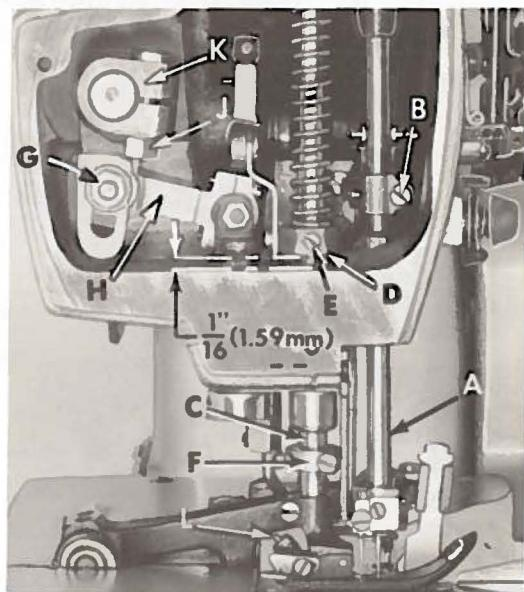

Fig. 4
Align the needle bar (A, Fig. 4) and set to height, using the proper test pins and test plate of the right gauge. See chart below.
If test plate and test pins are not available, insert a new set of needles (Type and Size as required) and align the needle bar so the needles center in the needle holes of throat plate. To align needle bar, loosen needle bar clamp screw (B, Fig. 4) and turn bar as required. Tighten clamp screw.
The height of the needle bar (A, Fig. 4) is correct when the top of the left 602 stitch needle's eye is $3/64$ inch (1.19 mm) below the underside of the front looper, when the point of looper, moving to the left, is even with the left side of this needle. If adjustment is necessary, loosen screw (B) and reposition needle bar (A) up or down as required and retighten screw. Care must be taken not to disturb the alignment of the needle bar while making this adjustment, as the needles are to have equal clearance on both the right and left sides of the needle slots in throat plate.
The height of the presser bar (C, Fig. 4) is set correctly if it is possible to remove the presser foot when the foot lifter lever
(B, Fig. 10) is fully depressed. Also there should be approximately $1/16$ inch (1.59 mm) clearance between lower surface of the presser bar connection and guide (D, Fig. 4) and the bottom surface of head opening in the bed when the foot lifter lever is released and the presser foot resting on the throat plate, with the feed dog down below the throat plate.
If adjustment is needed, turn handwheel in operating direction until the needle bar is in the low position. Loosen screw (E, Fig. 4), then, while holding presser foot down on the throat plate surface, pry up presser bar connection and guide with a screwdriver to obtain the $1/16$ inch (1.59 mm) setting and retighten screw. Check setting by turning handwheel so that needle bar is in its high position and see if presser foot can be removed as mentioned in previous paragraph.
Set the presser bar stop collar (F, Fig. 4) so that the presser foot does not contact the spreader when raised.
The arc travel of the spreader should be set at 9/16 inch (14.29 mm) for gauge Nos. 5-8 and 16-8 on Styles 57900 H and N. This setting should be 5/8 inch (15.88 mm) for gauge No. 12-12 on Styles 57900 H and N. Measurement is made by placing a scale between the two extreme spreader arc travel points. Adjustment can be made by loosening nut (G, Fig. 4) and moving the connecting link (H) up or down as required to obtain the desired amount of arc travel. Set the connecting link so that its arc travel is equal distance to the center of its arc. This is accomplished by loosening nut (J) and moving the spreader rocker shaft arm (K) to position the connecting link properly.
Regulate the presser spring regulating screw (F, Fig. 13) so that it exerts only enough pressure on the presser foot to feed the work uniformly when a slight tension is placed on the fabric. This is the knurled screw, located directly behind the needle bar in the head of the machine. Turning it clockwise increases the pressure, counter-clockwise acts the reverse. The 401 stitch chaining section of the presser foot has an independent pressure adjusting screw (L, Fig. 4) for best control on feeding out the chain and stopping chain cutting.